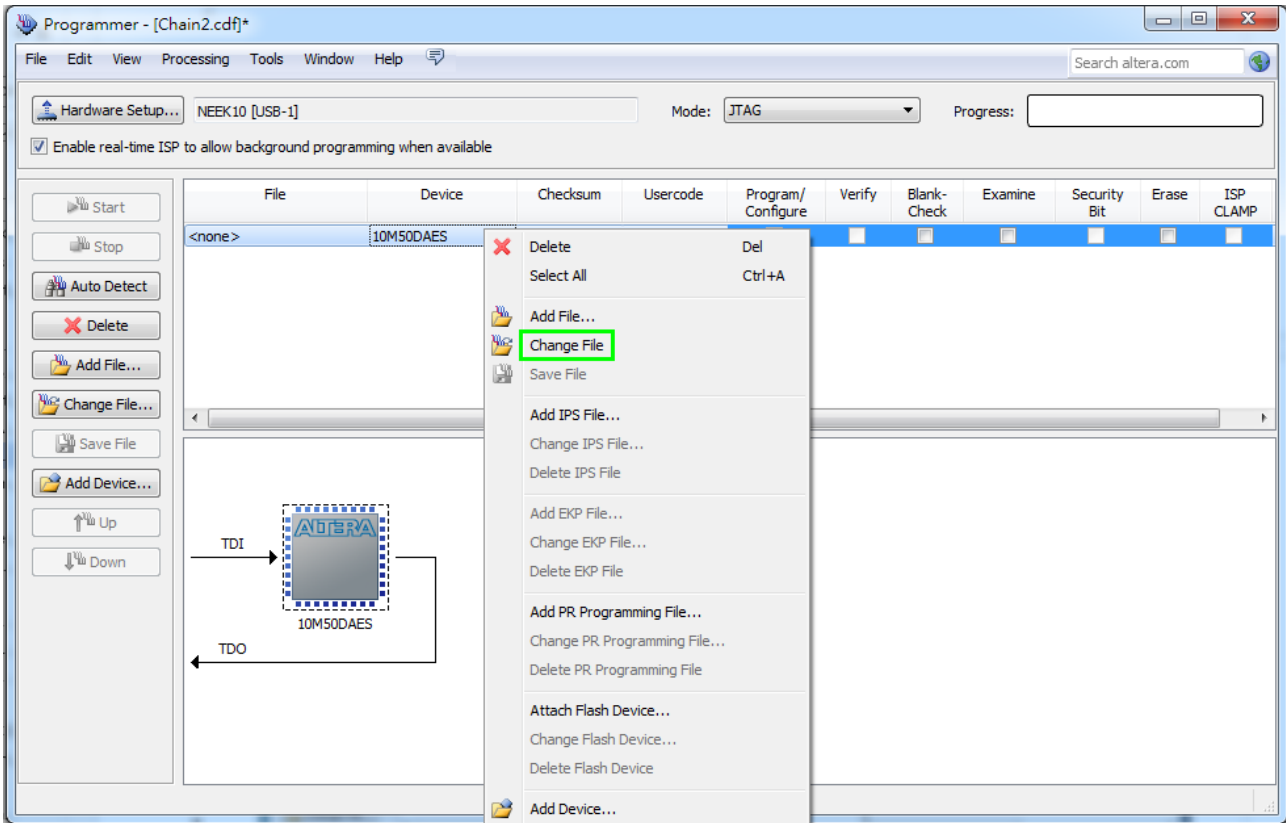

Figure 3-5 Open the .sof file to be programmed into the FPGA device
4. Right click on the FPGA device and open the .sof file to be programmed, as highlighted in **Figure 3-5**